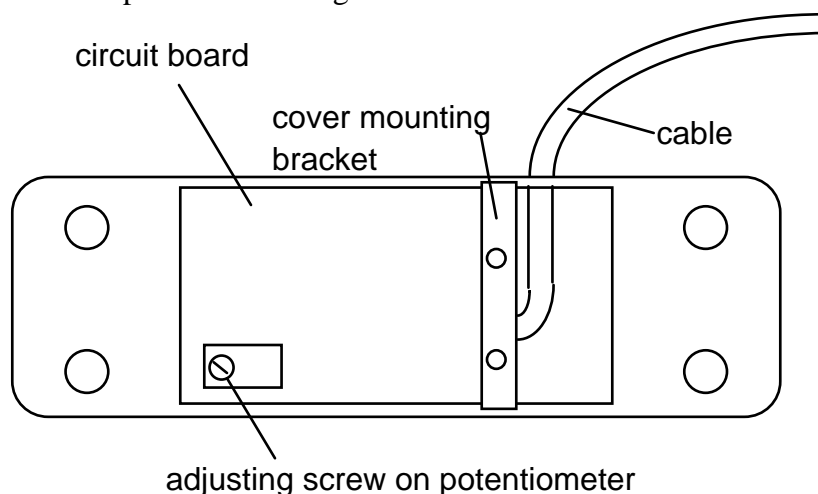

Figure 3-1. Zeroing screw for strain links
6. Find the potentiometer for zeroing the link. It is a small cube on the circuit board with a tiny screw on top as shown in Figure 3-1.